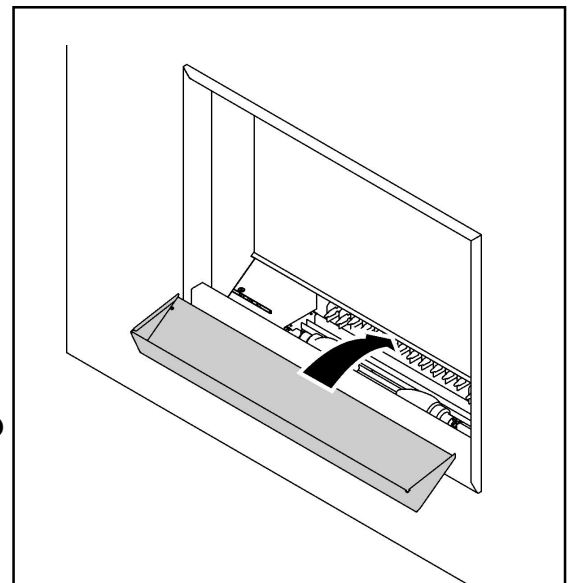

Figure 9. Fuel support locations (Fascia may differ from that shown)
1. Locate the fuel support as in figure 9.